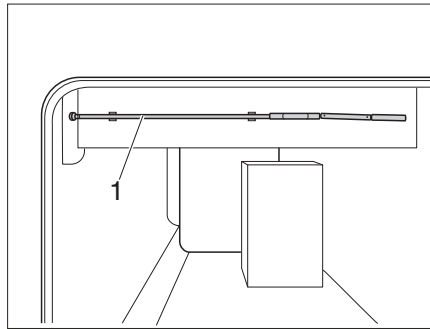

Fig. 150 Crank for height adjustment
- Remove the crank (Fig. 150,1) from the holder.